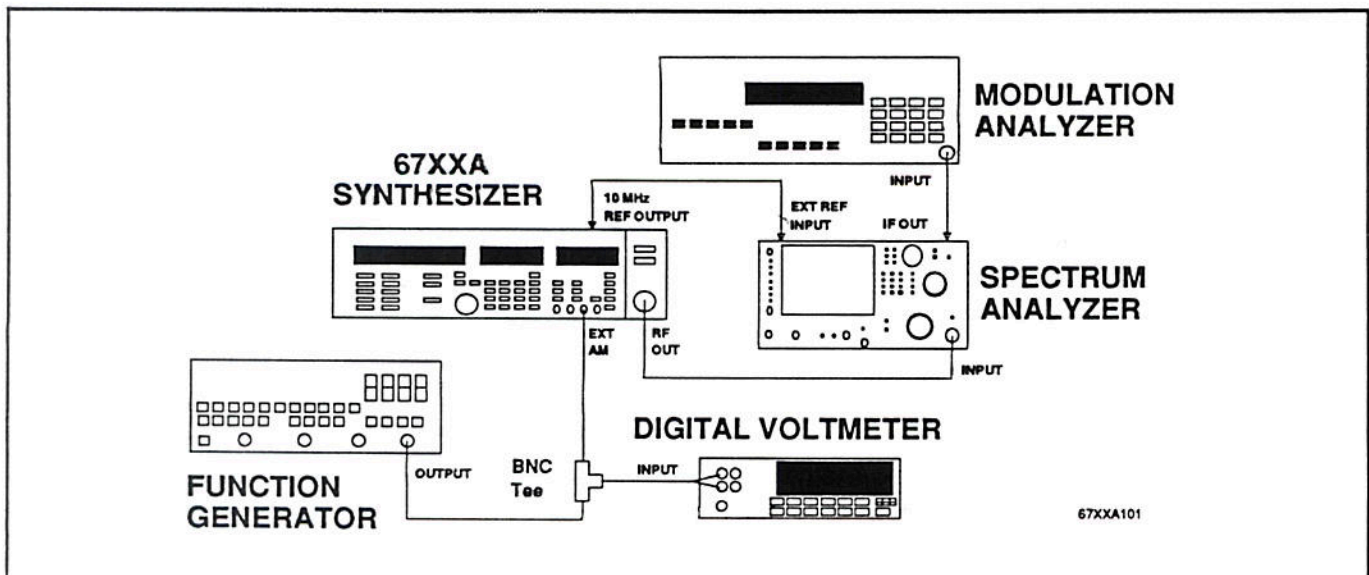

Figure 2-11. Equipment Setup for AM Modulation Tests
1. Connect the equipment as shown in Figure 2-11.